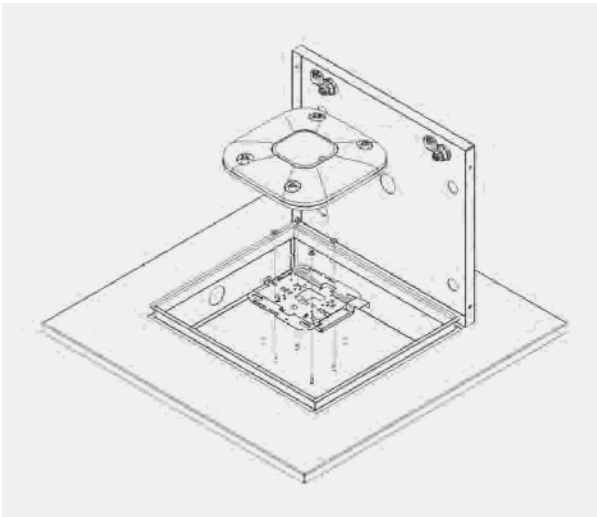

Figure 1
Step 2a – (For Cisco AP's Only) The mounting holes for Cisco AP's are located in the mounting plate. Standard Cisco mounting brackets as well as "Bracket 2" can be attached so the "Cisco" logo of the AP is parallel to the hinge. For "Bracket 1" the logo of the AP will be mounted perpendicular to the hinge. Securely fasten the access point's mounting plate to the mounting holes on the mounting plate of the enclosure using four (4) # 8 screws. Attach the Access Point to the mounting plate (Figure 1).